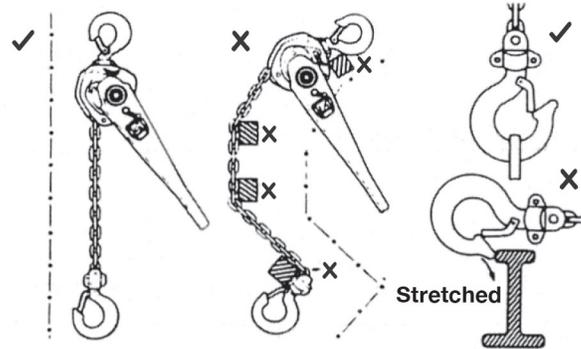

Figure 1
3. DO NOT operate hoist when it is restricted from forming a straight line with the direction of the load (Refer to Figure 1)
7. DO NOT operate unless load is properly applied to the saddle or bowl of the hook. (Refer to Figure 1)
8. DO NOT operate if load is applied to the tip of the hook. (Refer to Figure 1)